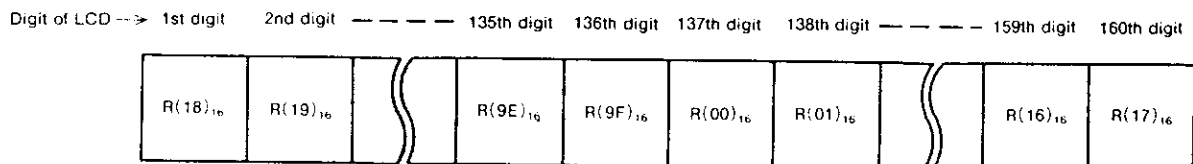

Fig.4 Example of display address
Here, if the content of the display start address register is incremented (+1), the result becomes (18)16, and the LCD display will be given by Fig. 4.